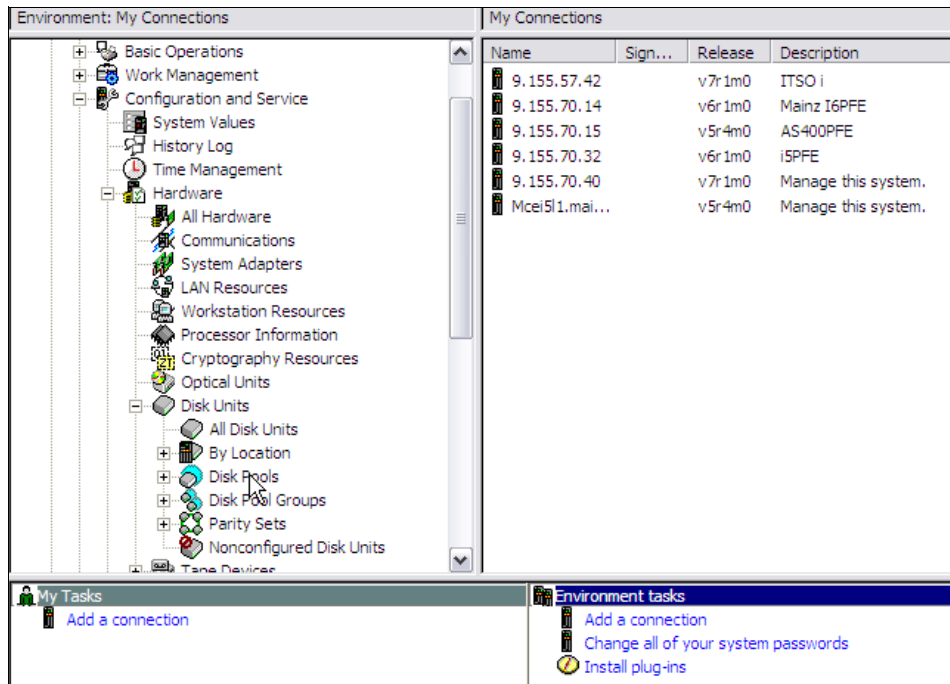

Figure 11-25 New disk pool shown in System i Navigator
15. Click **OK**, if you see the message that the created IASP is ready to start mirroring. The System i Navigator Disk Pools window (Figure 11-25) shows the new disk pool.